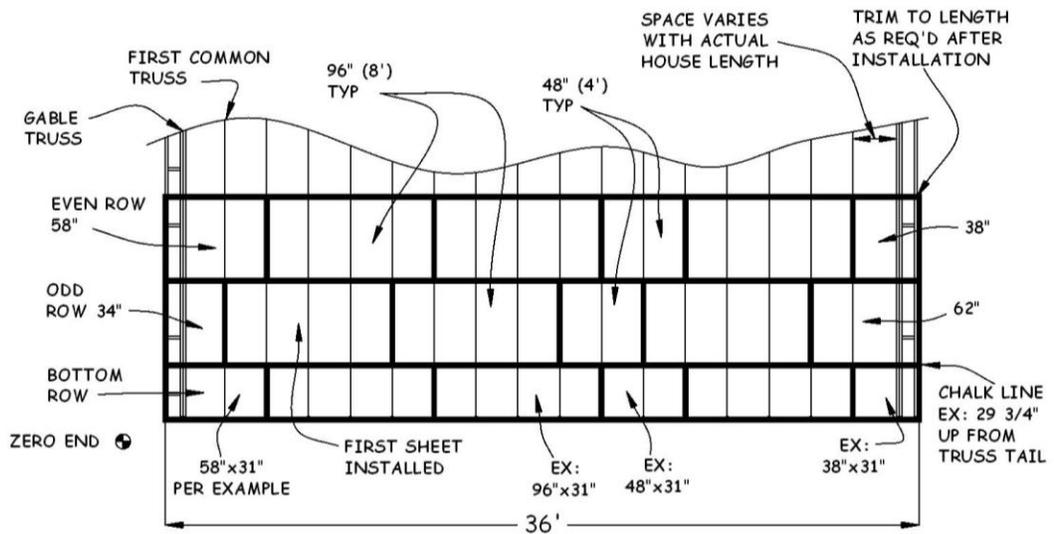
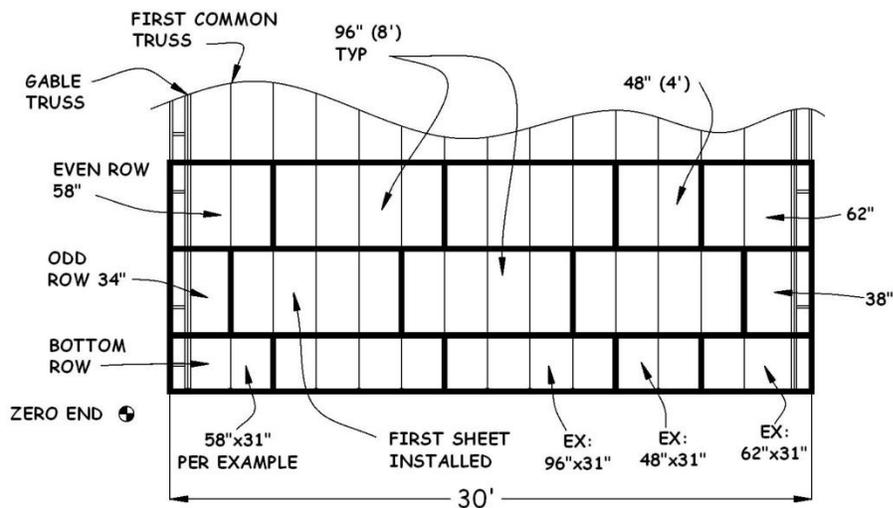

Figure 7-2. OSB Layout for 36' Roof.
Figure 7-3. OSB Layout for 30' Roof.
1. Refer to Figures 7-2 and 7-3, below, which show examples of the roof sheathing layout for a 36’ and 30’ long roof, respectively. Note that each **odd** row has a **34” piece** at the zero end, and each **even** row has a **58” piece** on the zero end. Also, note that the **bottom row** is not full-width. The size of these **bottom row** pieces will be determined in Section 7.4.2.
4. Place two 34" and two 58" pieces on each eave side of the house at the zero end, and two each of the 38" and 62" pieces on each eave side of the non-zero end. There are typically 4 rows of sheathing on each side of the house, or 8 rows total. As shown in Figures 7-2, 7-3, and Table 7-1, the 62" and 38" pieces are used on the non-zero end, but not necessarily in the same row as its corresponding cutoff.
5. Depending on the length of the house, a 4' piece may also be needed in the middle of the row to reduce scrap and to maintain the stagger of the joints between sheets. In the 36' example in Figure 7-2, a 4' piece is required in each row. Figure 7-3 shows a **4' piece** in **even rows** only. Referring to "**Total # of 4s**" in Table 7-1, determine the number of 4' pieces required. Cut full-width sheets in half to obtain the required number, label with the size, and place half of them on each eave side of the house near the middle.